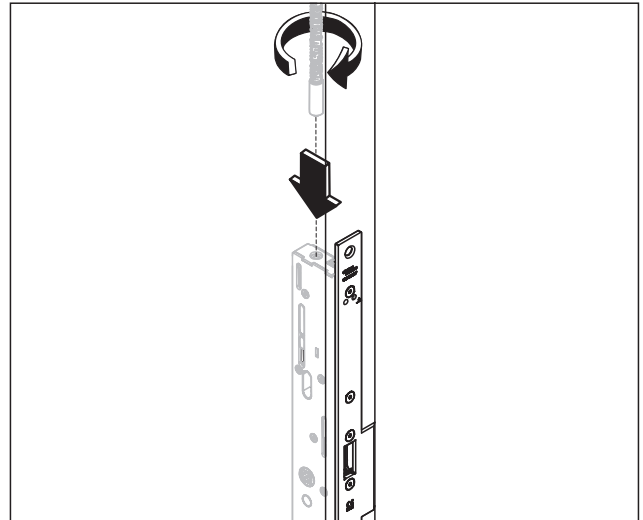

Fig. 47 Screw in upper espagnolette bolt
- 8.** Insert the upper espagnolette bolt into the fixed leaf and screw it completely into the lock by hand (Abb. 47) so that the espagnolette bolt can still be adjusted later.